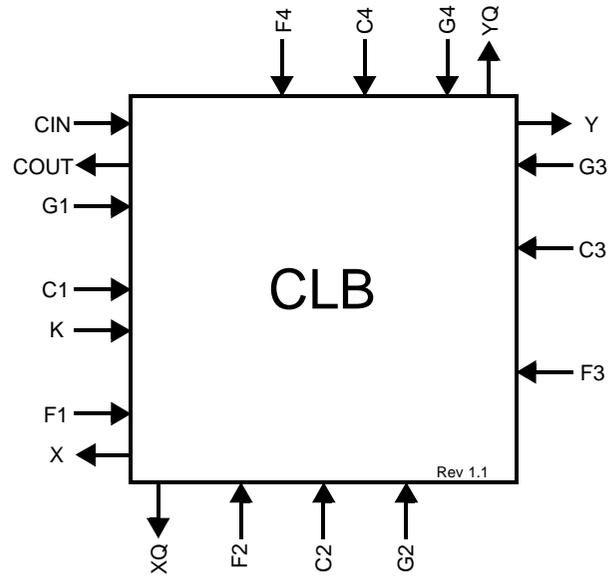

Figure 9: CLB Interconnect Signals
A block diagram of the CLB interface signals is shown in Figure 9. The input signals to the CLB are distributed evenly on all four sides providing maximum routing flexibility. In general, the entire architecture is symmetrical and regular. It is well suited to established placement and routing algorithms. Inputs, outputs, and function generators can freely swap positions within a CLB to avoid routing congestion during the placement and routing operation. The exceptions are the clock (K) input and CIN/COUT signals. The K input is routed to dedicated global vertical lines as well as 4 single-length lines and is on the left side of the CLB. The CIN/COUT signals are routed through dedicated interconnects which do not interfere with the general routing structure. The output signals from the CLB are available to drive both vertical and horizontal channels.